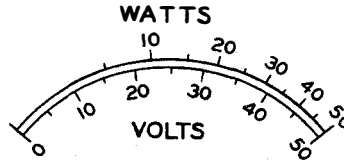

Fig. 2-2. Comparison—Illustrative Watt and Volt Scales
(2) When the voltmeter is a linear type, the watt scale will be as shown in Fig. 2-2. This compares equivalent voltage and power scales for a hypothetical 50 ohm, 50 watt, 50 volt instrument. Half full-scale deflection is obtained at one-fourth full-scale power, and this scale, expanded at low readings is convenient in getting better readability at low scale readings. The voltmeter used in the RF Wattmeter ME-11/U is approximately linear and scales are of the type shown in Fig. 2-2.